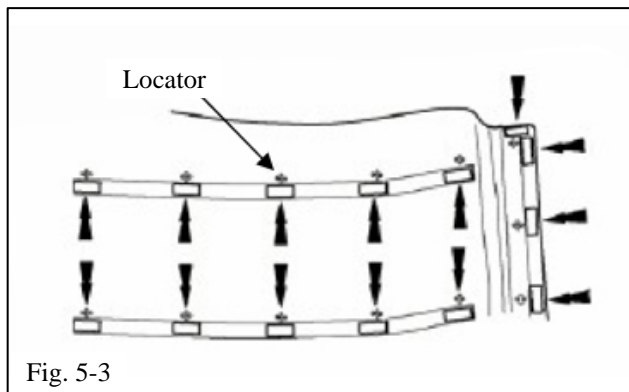

Fig. 5-3
- (c) Attach 1" X 2" fasteners to the back sides of the BedRug sidewalls as marked by locators (Fig. 5-3).